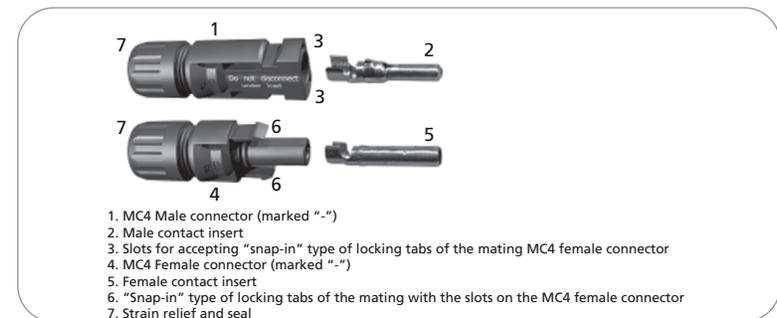

Fig. 1 . MC4 Male and Female Connectors
MC4 Connectors (Fig. 1)
In the MC4 Male Connector (1 of Fig. 1), the internal mating contact insert (2, Fig. 1) is a male pin. It has two slots (3 of Fig. 1) for insertion of the two “snap-in” type of locking tabs (6 of Fig. 1) of the MC4 Female Connector (4 of Fig. 1) for firm mating connection. This connector is marked “-”.
In MC4 Female Connector (4, of Fig. 1), the internal mating contact insert (5 of Fig. 1) is a female cylindrical socket. It has two “snap-in” type of locking tabs (6 of Fig. 1) that are inserted into the two slots (3 of Fig. 1) in the MC4 Male Connector (1 of Fig. 1) for firm mating connection.
Wire is crimped to the contact inserts (2 and 5 of Fig. 1) using a special purpose crimping tool designed for MC4 connectors. After the wire has been crimped, the contact insert is required to be seated securely inside the housing and the strain relief / seal (7 of Fig. 1) is to be tightened fully to provide a water-tight seal.
Each Branch Connector has 3 branches - two on the one side & one on the other. The branches could be "male" or "female". The construction of the branches is similar to the construction of the MC4 connectors shown in Fig. 1. In a branch connector, all the 3 branches are internally connected in parallel.
4. Crimp the male and female contact inserts (2 and 5 of Fig. 1) to the bare ends of the wire with the help of special purpose crimping tool meant for the MC4 connectors.
5. Install the contact inserts inside the housing of the MC4 connectors and tighten the strain relief / seal (7 of Fig. 1) fully to ensure a watertight seal.